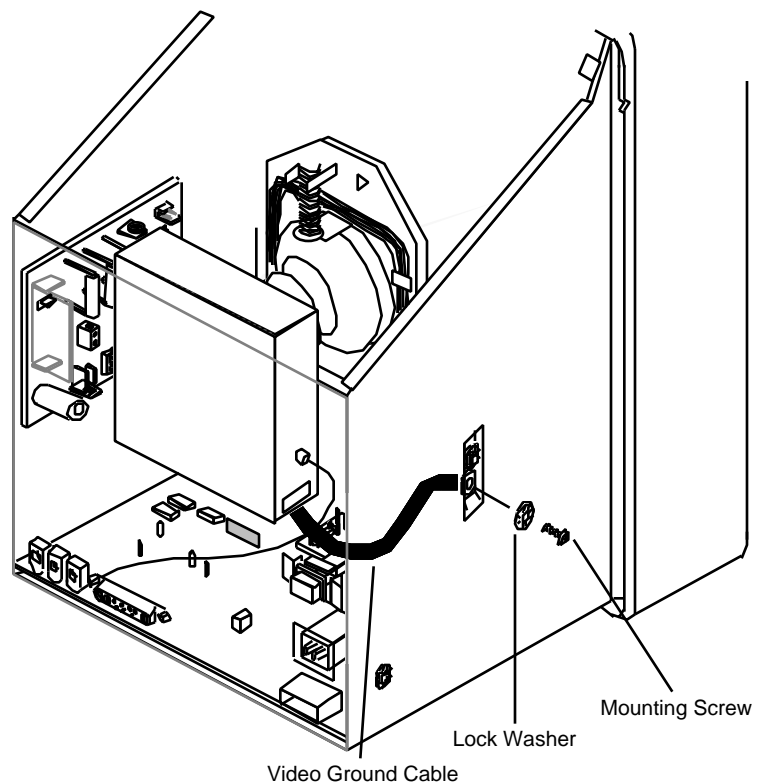

FIGURE 20
4. Remove the screw, lock washer, and large black video ground cable from the ground bracket (Figure 20) .